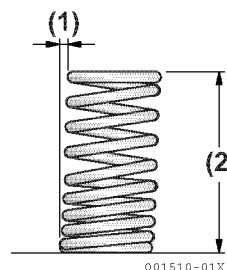
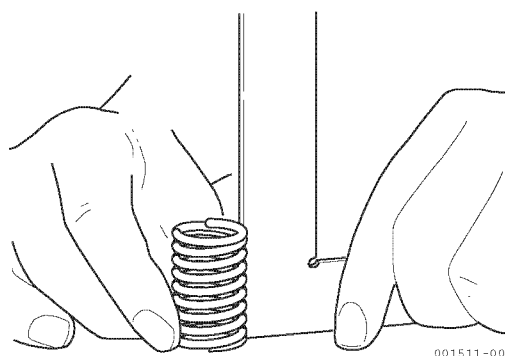

Figure 5-78
Figure 5-79
- Measure inclination (Figure 5-78) and (Figure 5-79).